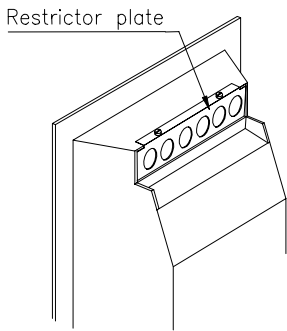
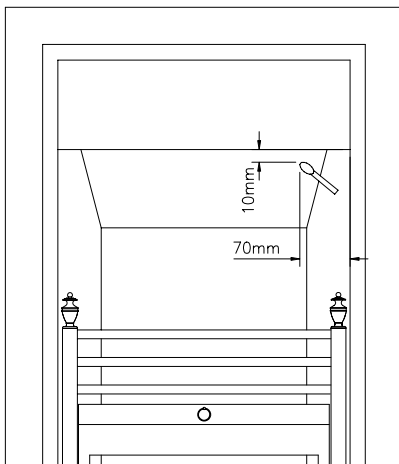

Fig.3 Fitting the restrictor plate
Fig.10
2. Fit the restrictor plate with its bottom edge inside the flue outlet, using 2 screws provided, as shown in Fig. 3.
3. After approximately 5 minutes place a smoke match 70mm from the right hand side, inside edge of the trim, 10mm below and 10mm within the opening of the fire as shown in Fig. 10, 10a, & 10b. Ensure that the smoke is drawn into the fire aperture. If spillage is detected, operate the fire for a further 10 minutes and repeat the test. If spillage is still detected introduce ventilation into the room by opening a window or door. If spillage is no longer detected then purpose made ventilation with a minimum area of 100 sq.cm must be provided. If after introducing ventilation into the room spillage is still detected, remove the restrictor plate if fitted (see Fig. 3) and retest for spillage. If spillage is still detected the cause must be discovered and the fault corrected. If the fault cannot be corrected, disconnect the gas supply to the appliance and seek expert advice. Possible causes of spillage are chimney restrictions, or an incorrect cowl or terminal.